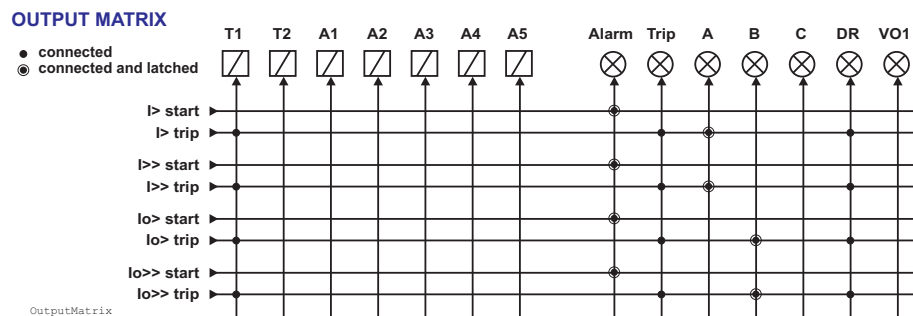

Figure 7.1: Output matrix.
There are two LED indicators named "Alarm" and "Trip" on the front panel. Furthermore there are three general purpose LED indicators - "A", "B" and "C" - available for customer-specific indications. In addition, the triggering of the disturbance recorder (DR) and virtual outputs are configurable in the output matrix. See an example in Figure 7.1.